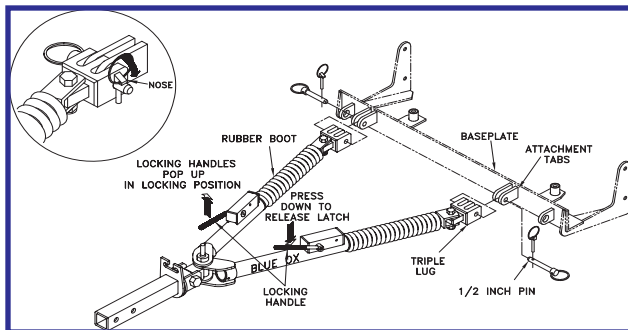

Figure 5
3. Partially extend one leg. The legs are held in with an internal "soft" latch. Pulling out on the leg will disengage this latch. Place the triple lug between the attachment tabs on the baseplate, and secure with the 1/2" pin. See Figure 5. Be sure to the 1/2" pin is installed **correctly** through the attachment tab with the nose towards middle of the baseplate. See Figure 5. Repeat for both legs.
2. Disengage the leg latches by pushing down on the locking handles. (Figure 5) Remove the quick pins and 1/2" pins attaching the triple lugs to the attachment tabs. You may need to tap the 1/2" pins out if there is still pressure on them. Compress both legs completely until they lock in place.